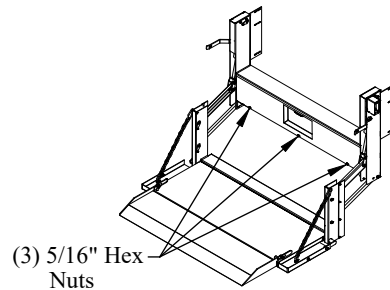

Figure 11: Box cover locations.
1. **Remove** the box cover by removing the 5/16" hex head nuts (Figure 11).